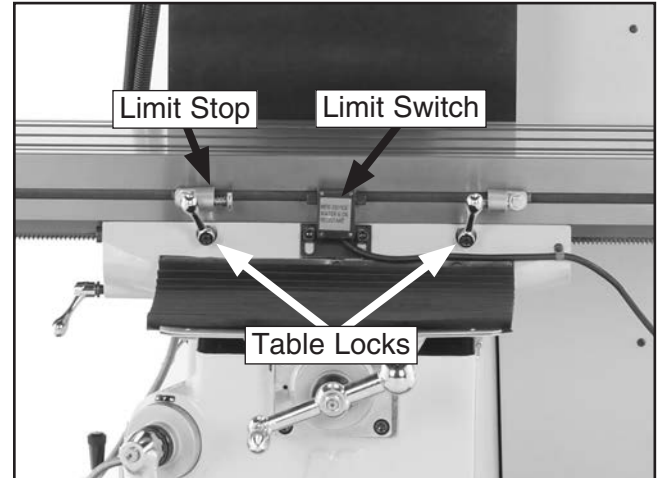

Figure 26. Example of table locks, limit switch, and limit stop.
1. Loosen the table locks (see **Figure 26**).